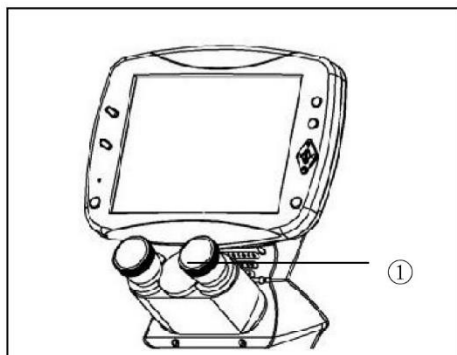

Figure 10
2.2.7. Installing the eyepiece (Figure 10)